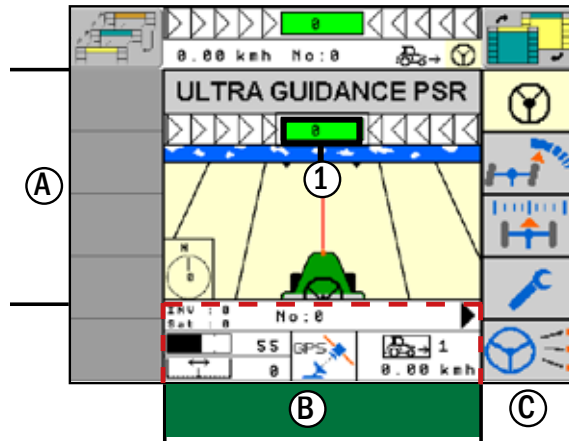

Fig. 19: Information field
The information fields (B) show information on the current steering mode (SKY, SONIC, TAC, MEC) as well as general vehicle information (see Fig. 19).
(see Fig. 19):
Display of further information on the current steering mode, such as number of the current track (only for PSR SKY). If the track number is not displayed in the information field, it is shown at the top of the main display field (see Fig. 19 – 1)